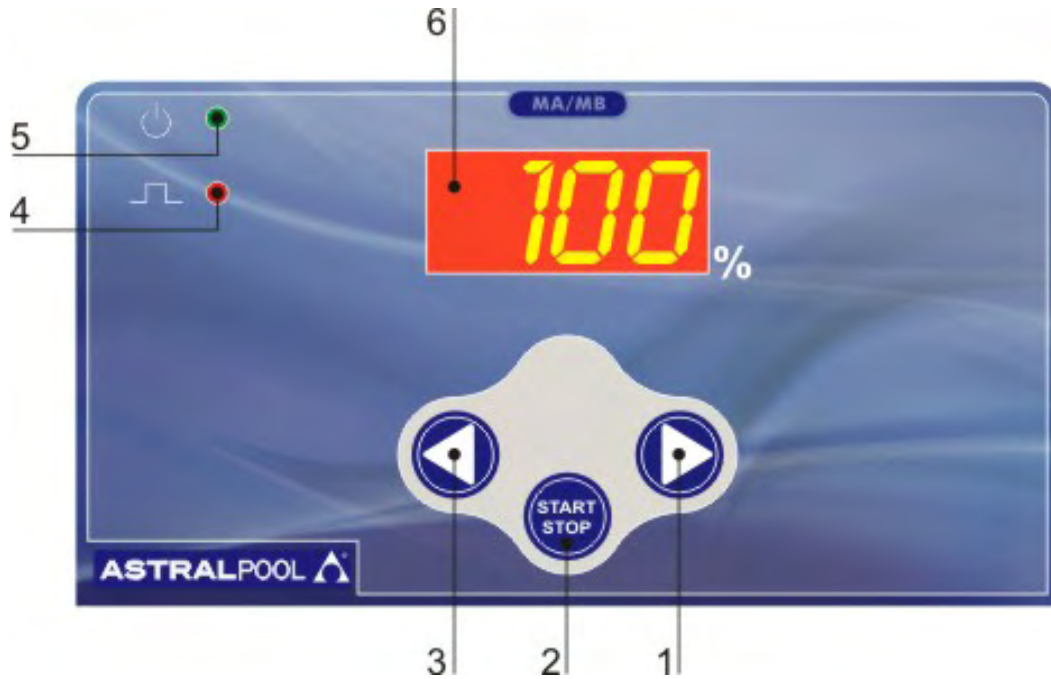

Fig. 14
Manual flow rate adjustment by means 2 buttons (LEFT (3) - RIGHT (1)) shown in figure 14.
7.1 - PUMP CONTROLS (Fig. 14)